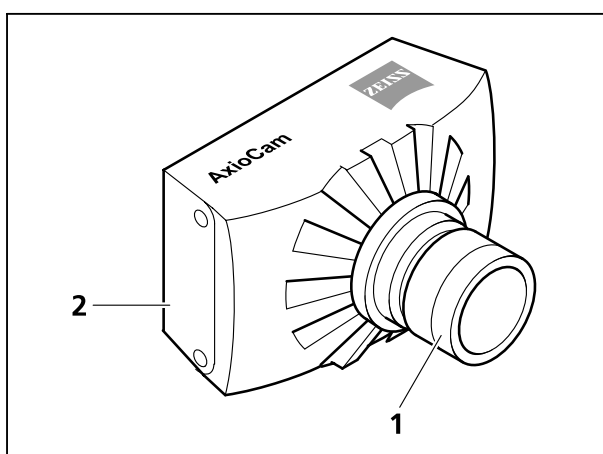

Fig. 3-5 Screwing the adapter piece to the camera
- Screw the adapter piece (Fig. 3-5/1) onto the camera (Fig. 3-5/2).